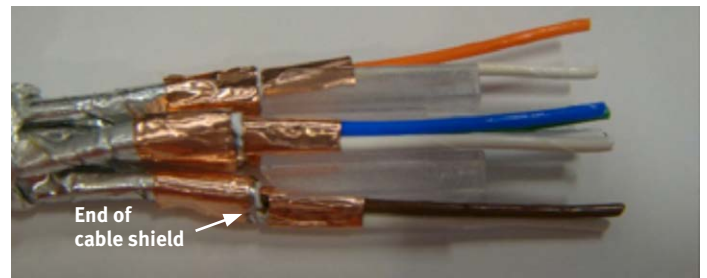

Figure 15: Sliding plastic wire aligner in first end
11. With the tapered end facing the foil, slide the plastic wire aligner in between the pairs until it reaches the cable shield (Figures 15 – 18).